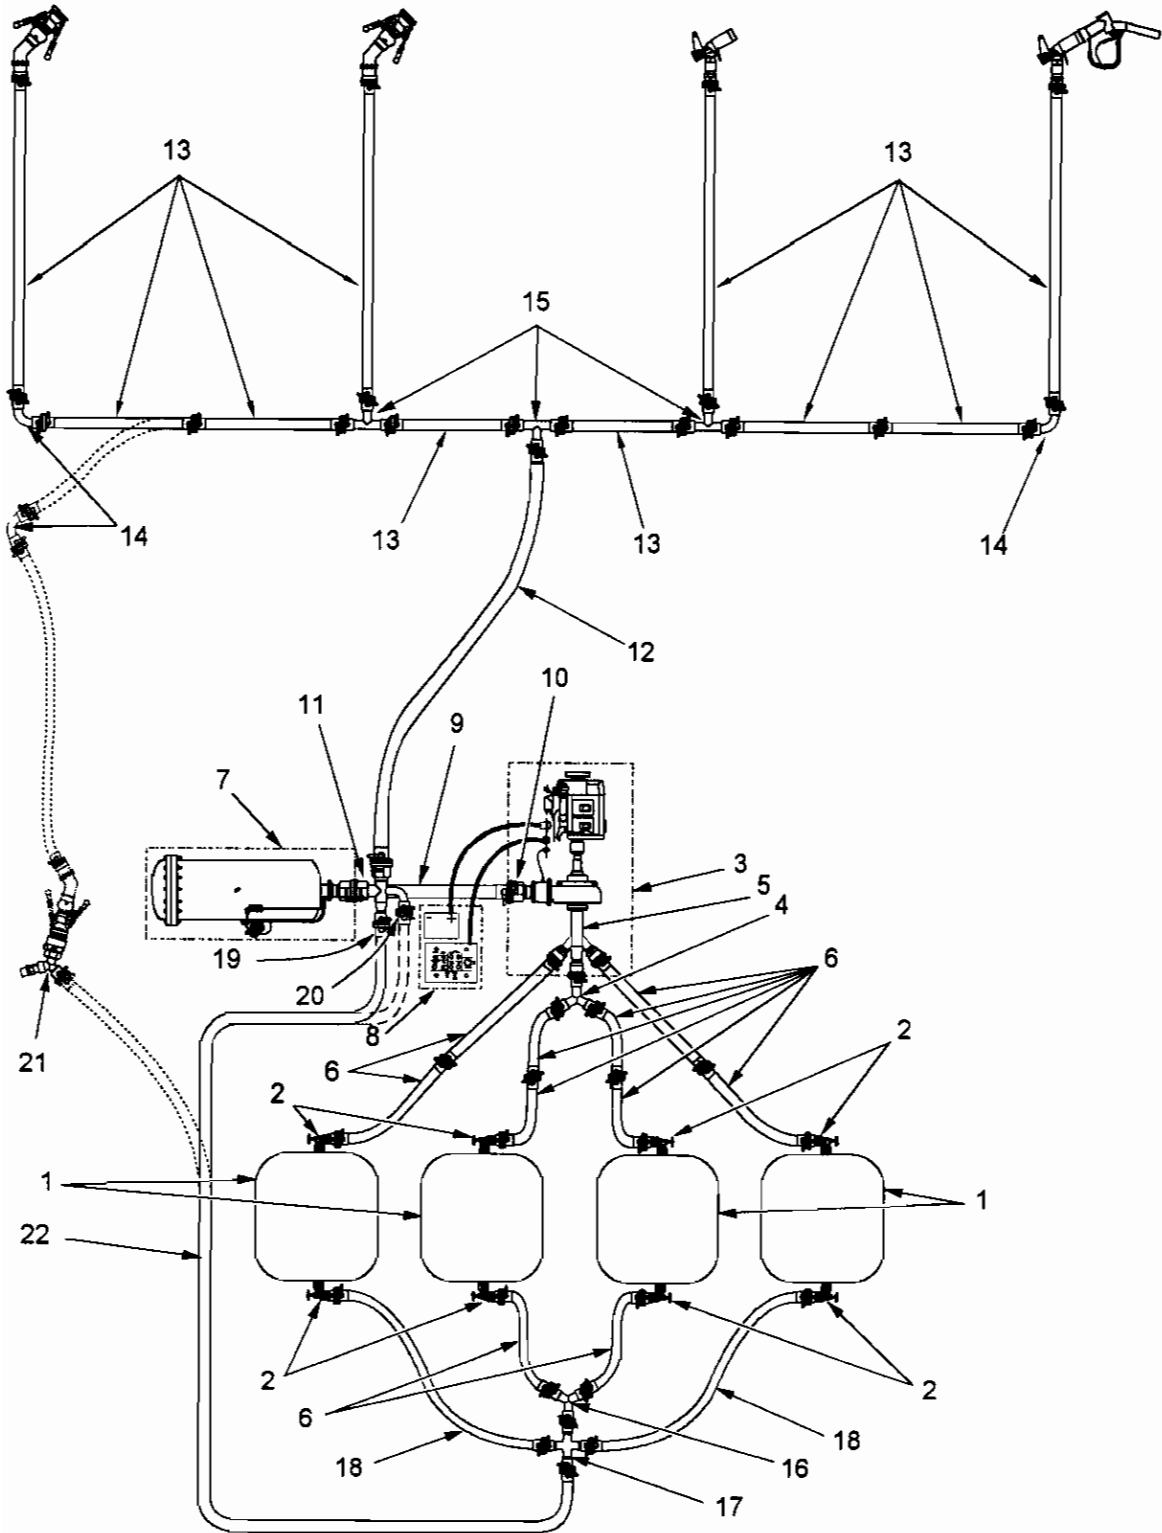
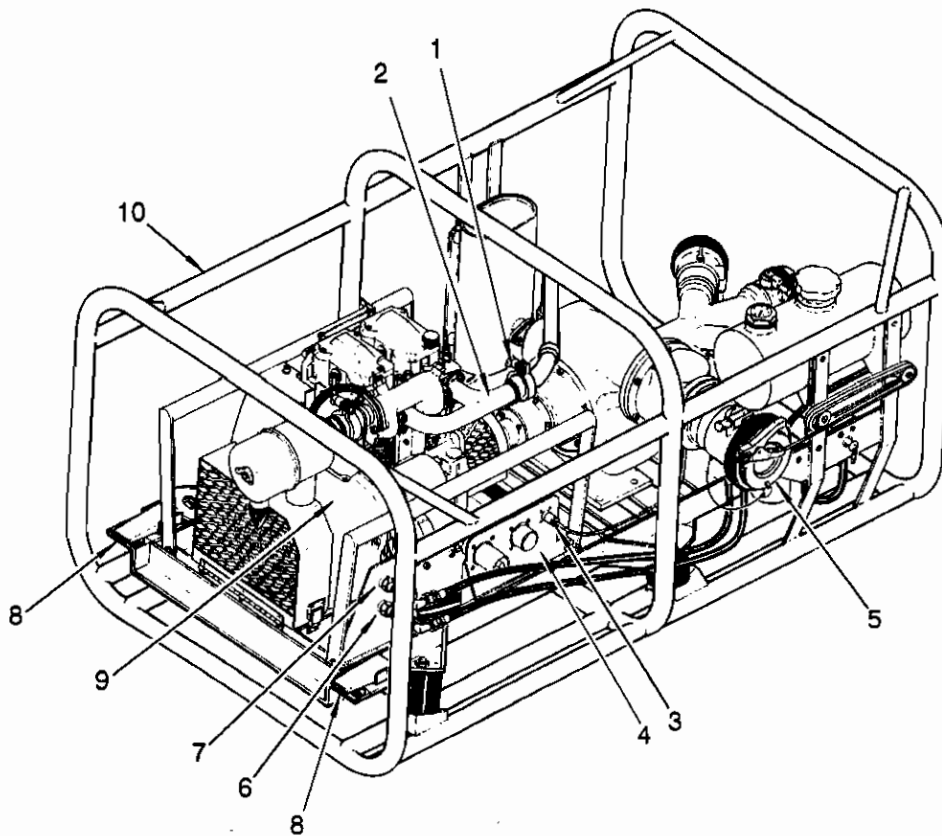
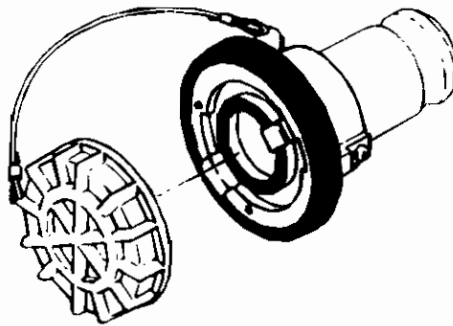

Figure 2-3. AAFARS Emplacement
Figure 2-4. Pump-Engine Emplacement
Figure 2-5. 2" Unisex Non-Valved Coupling to 2" Male Camlock Adapter Assembly
2.4 SYSTEM ASSEMBLY AND PREPARATION FOR USE. (Refer to figure 2-3.)
Figure 2-3 illustrates a typical AAFARS emplacement. Actual emplacement may require a slightly different configuration due to terrain or mission constraints. Select a site that is flat and clear of rocks, stumps and debris.
- a. Position fuel drums (1). Fuel drum (1) may roll. Insert chocks or dirt berms on both sides.
- d. Remove engine module from pump-engine module. (Refer to figure 2-4.)
- (1) Unclamp exhaust pipe (1) from exhaust manifold (2).
- (2) Disconnect pumpage over temperature cable (3) at engine module connection panel (4). Install dust caps on connectors. Wrap free end of cable around fuel transfer pump outlet (5).
- (3) Disconnect fuel supply line (6) and return line (7) at engine module. Connect free ends of lines together.
- (4) Unlatch (8) engine module (9) from pump-engine frame (10) and slide engine module out of frame.
- e. Inspect the eight fuel drum elbow valve (figure 2-3, 2) couplings to ensure that each elbow valve coupling is closed (valve stem fully extended).
- g. Install one adapter assembly (2" unisex non-valved coupling to 2" male camlock adapter) (figure 2-5) on each elbow valve coupling (figure 2-3, 2).
Figure 2-3 indicates the use of eight suction hoses to connect four fuel drums to the fuel transfer pump inlet manifold. Actual set up may require fewer than eight suction hose lengths.
- j. Install 2" x 6' suction hoses (6) as required to connect fuel drums (1) to inlet manifold (5). Reposition pump-engine module (3) as required. Open valved unisex coupling valves on suction hoses, wye, and inlet manifold.
- k. Install engine module in pump-engine module. (Refer to figure 2-4.)
- (1) Slide engine module (9) into pump-engine frame (10), PTO end first. If flexible coupling spline adapter will not engage it may be necessary to rotate the flex portion slightly to align with the spline flex coupling adapter.
- (2) Latch (8) engine module (9) to pump-engine frame (10).
- (3) Clamp exhaust pipe (1) to exhaust manifold (2).
- (4) Connect pumpage over temperature cable (3) at engine module connection panel connector J3 (4). Couple together adjacent dust caps.
- (5) Connect fuel supply line (6) and fuel return line (7) at engine module.
- (6) Check that throttle control is at maximum position (fully right).
- l. Position liquid fuel filter-separator (figure 2-3, 7) 4-5 feet from pump-engine module (3) with inlet facing fuel transfer pump.
- m. Position the accessory module (8) between the pump-engine module (3) and the liquid fuel filter-separator (7) so that operator has a clear view and easy access to all system components.
- n. Connect the 3" x 6' discharge hose (9) between fuel transfer pump discharge (10) and liquid fuel filter-separator (7) inlet (lower port). Rotate discharge hose as required to remove any kink or bend. Open shutoff valve and unisex coupling valves on discharge hose.
- o. Connect the recirculation manifold (11) to the liquid fuel filter-separator (7) outlet (upper port) and open the manifold unisex coupling valve. Do not open 3" unisex coupling of liquid fuel filter-separator. Rotate manifold so that the 2" unisex couplings are facing the fuel drums and the unoccupied 3" unisex coupling is facing the area selected for the fueling points.
Figure 2-3 indicates the use of ten 2" x 50' fuel discharge hoses to supply four fueling points. This is the maximum number available but actual set up may require fewer. One hundred feet (100 ft [30.48 m]) of separation is required between fueling points.
Three recirculation paths are available for use as indicated on figure 1-17. RECIRC 1 (figure 2-3, 19) limits flow to 5 gpm from the recirculation manifold (RECIRC 1 is normal recirculation path during fueling operations); RECIRC 2 (20) allows full flow; and RECIRC 3 employs the nozzle recirculation wye (21) to recirculate fuel from a CCR or D-1 nozzle. The supervisor must select a method based on mission requirements.
- s. Connect a 2" x 50' discharge hose (22) between the cross fitting (17) and RECIRC 1 coupler (19) on the recirculation manifold. Open 2" unisex coupling valves at each connection.
- t. Open fuel drum inlet elbow valve couplings (2) and 2" unisex valve coupling and discharge hose.
- u. Drive a grounding rod between the pump-engine module (3), accessory module (8) and the liquid fuel filter-separator (7) for grounding AAFARS.
- v. Connect the pump-engine module (3), accessory module (8) and liquid fuel filter-separator (7) grounding cables to the grounding rod.
- w. Position a fire extinguisher at each fueling point and pump-engine module (3).